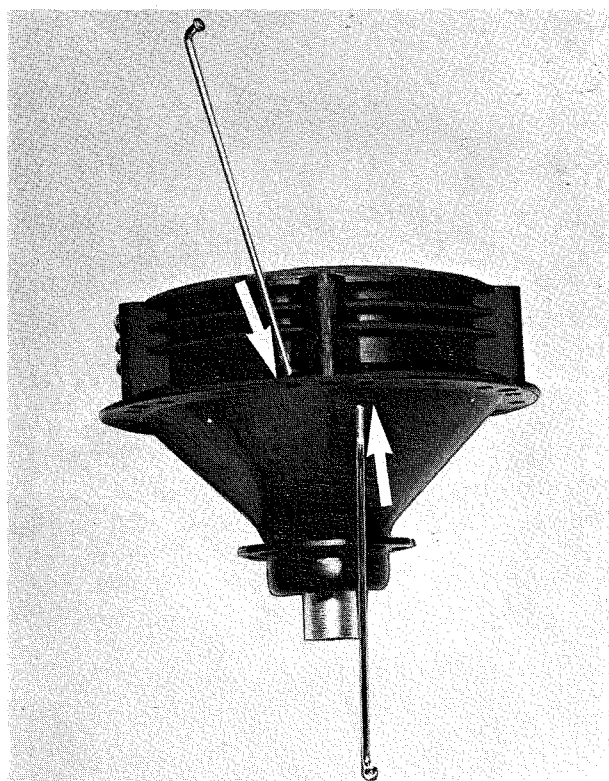

Fig. 3
3. Take two of the six short spokes and assemble them one on each side of the hole. The left one downwards and the right one upwards. See figure 3.